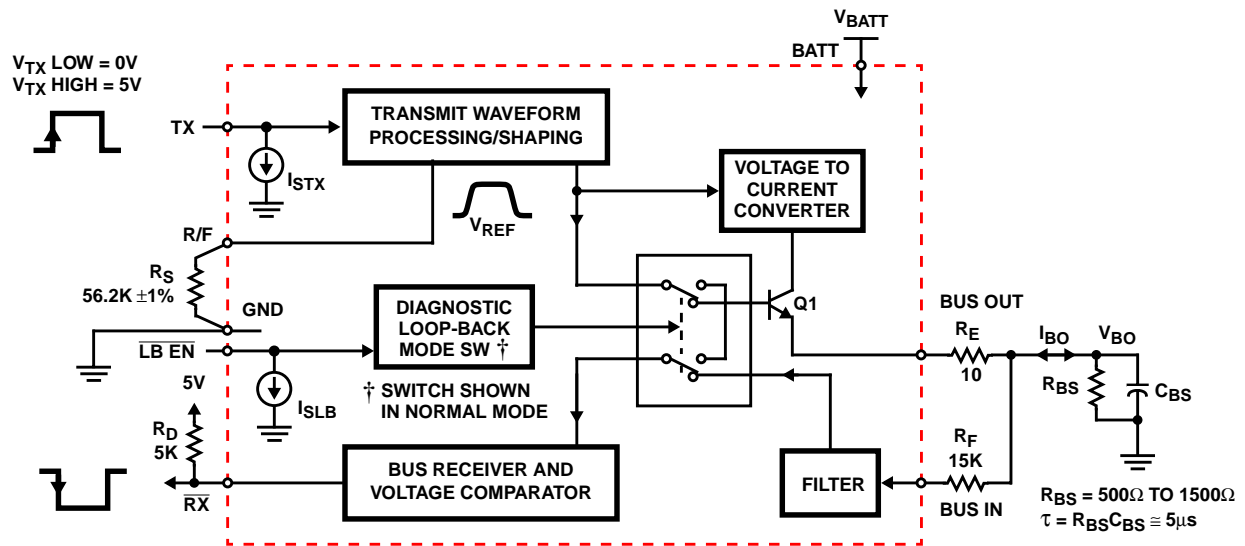

FIGURE 4. ELECTRICAL SPECIFICATION TEST CIRCUIT
- Unless otherwise noted, all Electrical Specification test conditions are as shown in Figure 4.